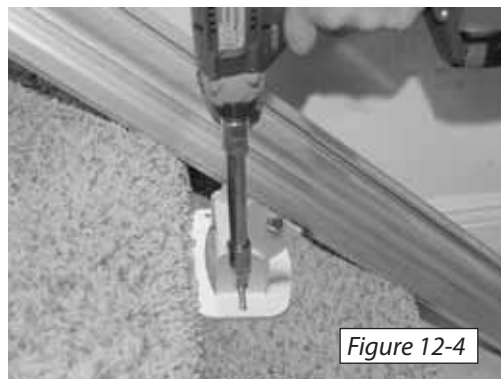

Figure 12-4
2. Secure the rail by positioning one lag bolt in the lower rail bracket and tightening to step. [Figure 12-4]. The side of the bracket with two holes should be towards the wall.